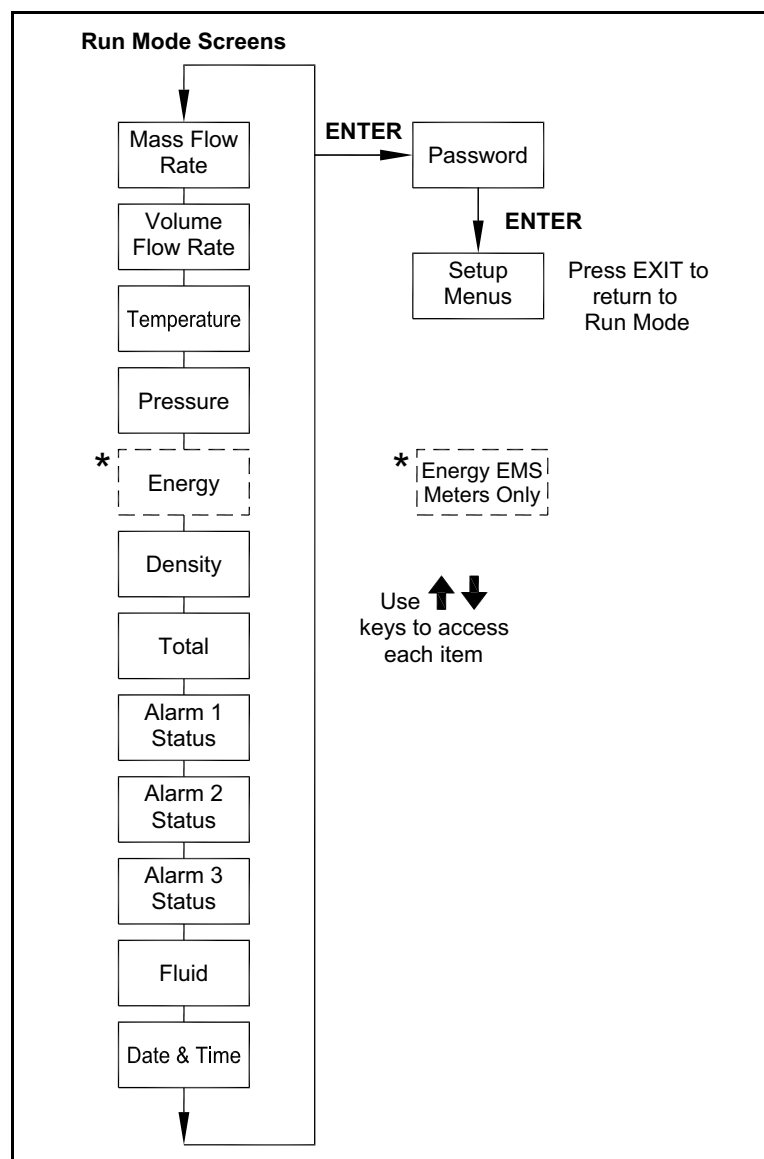

Figure 53: Run Mode Screens
3. Run Mode displays flow information based on system settings. As a result, some of the screens shown in *Figure 53* below may not be displayed. Press the **↑ ↓** arrow keys to view the Run Mode screens.